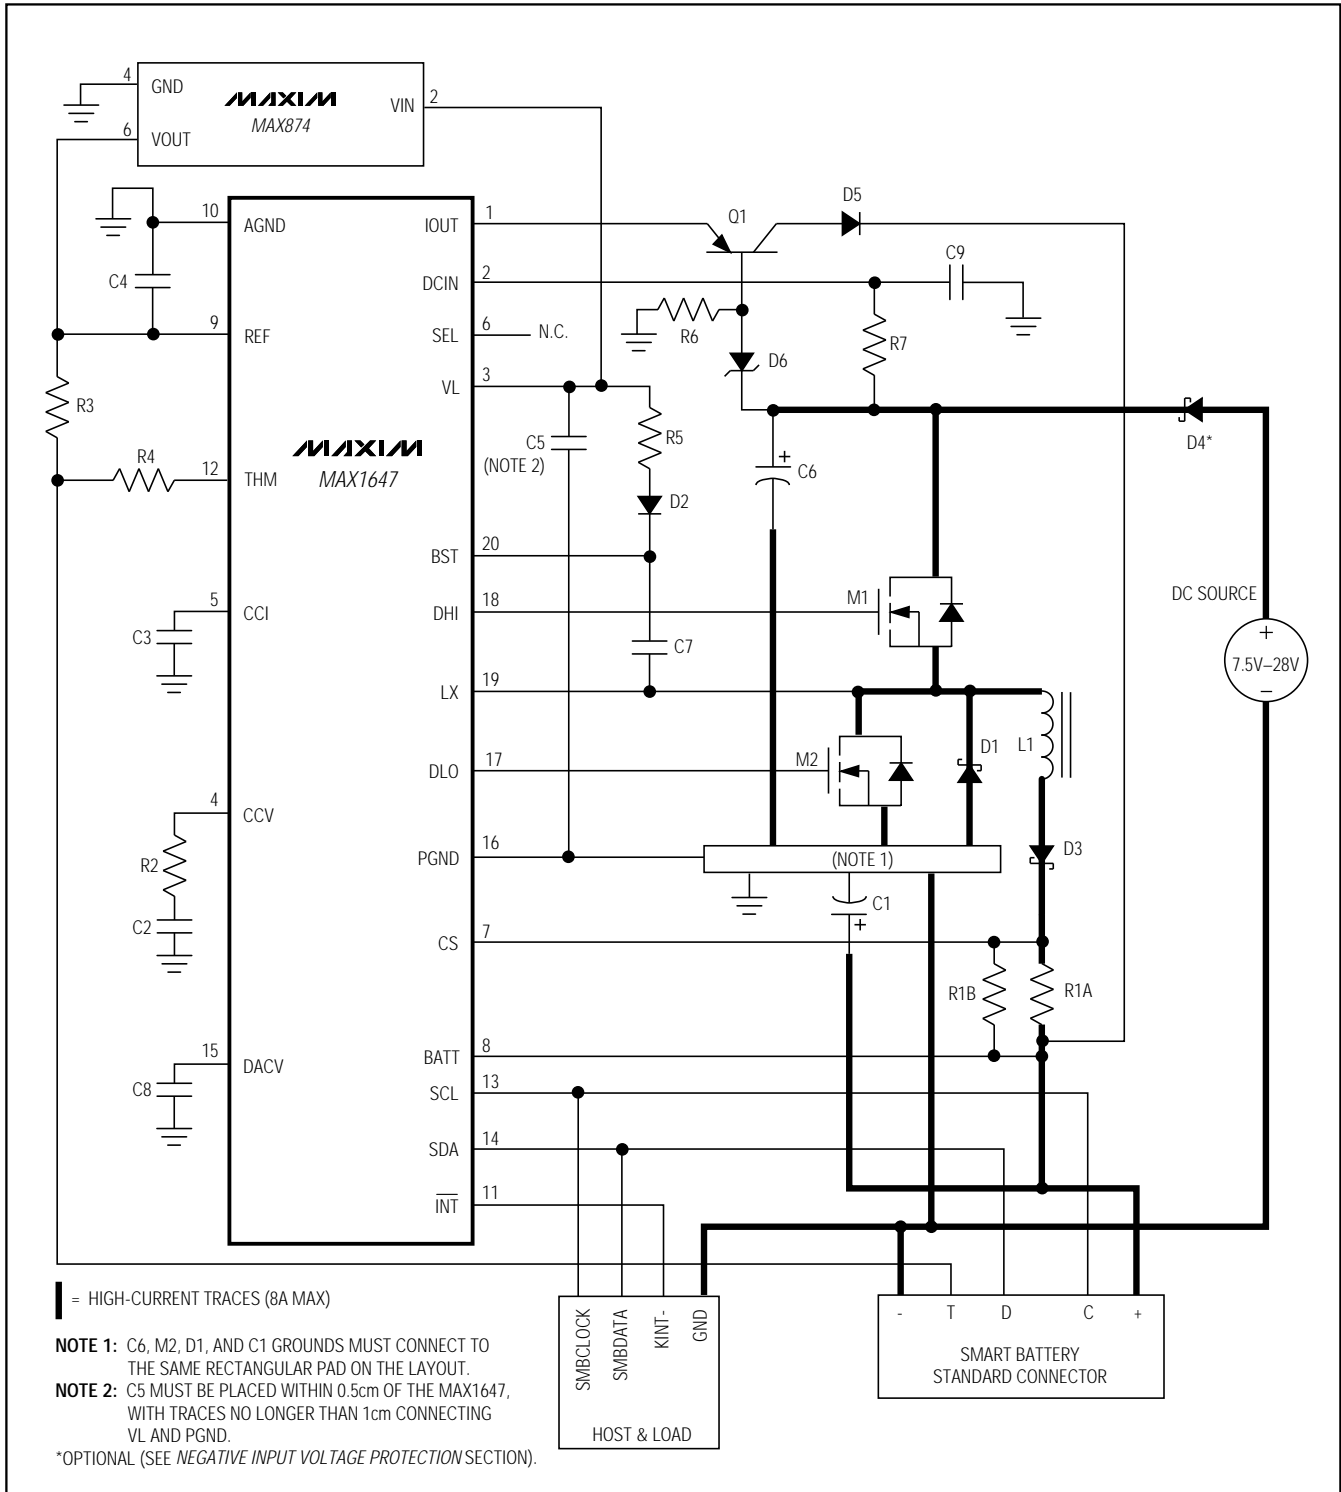
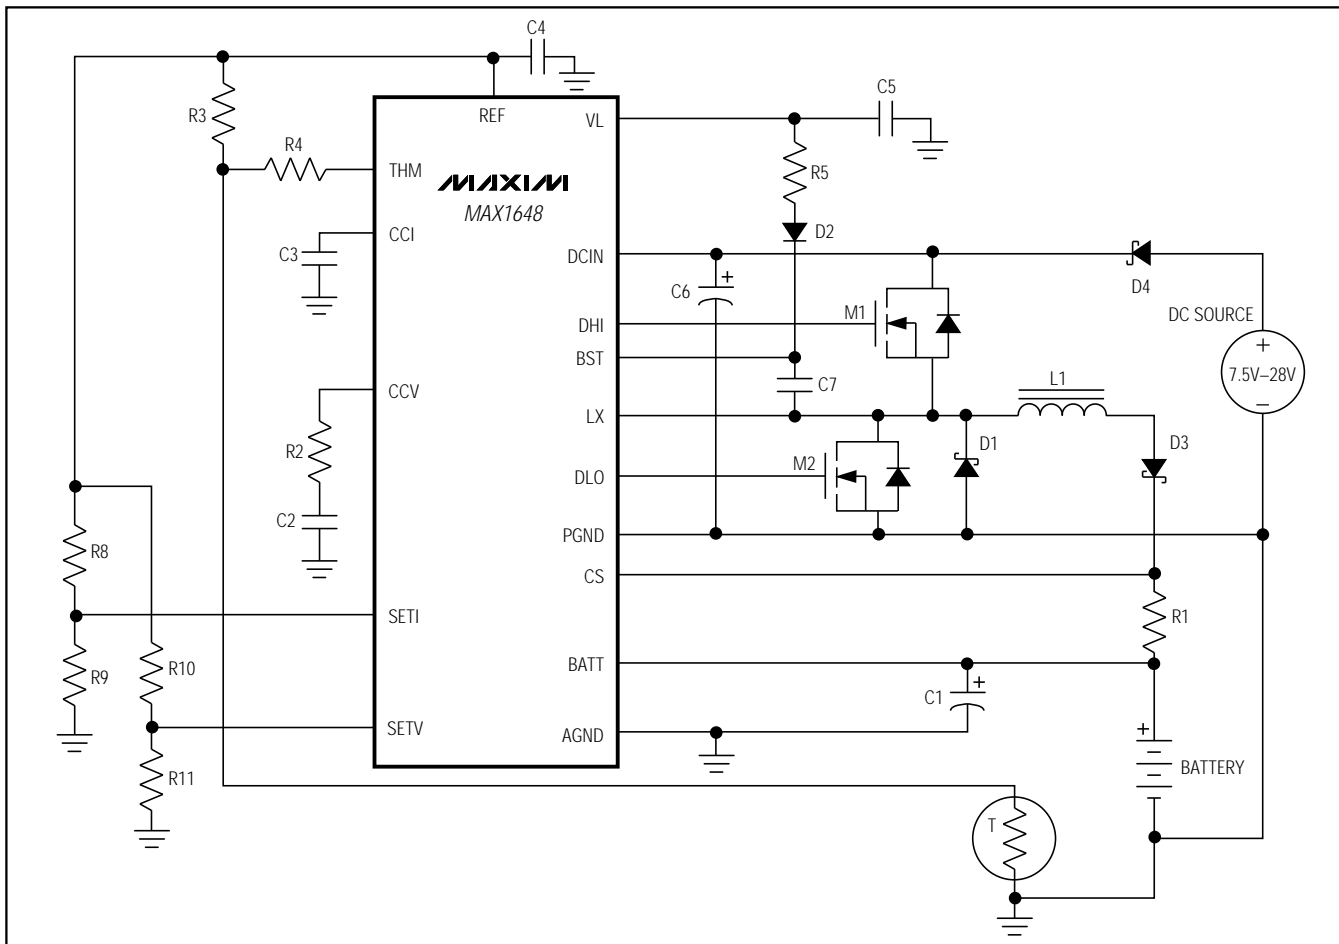
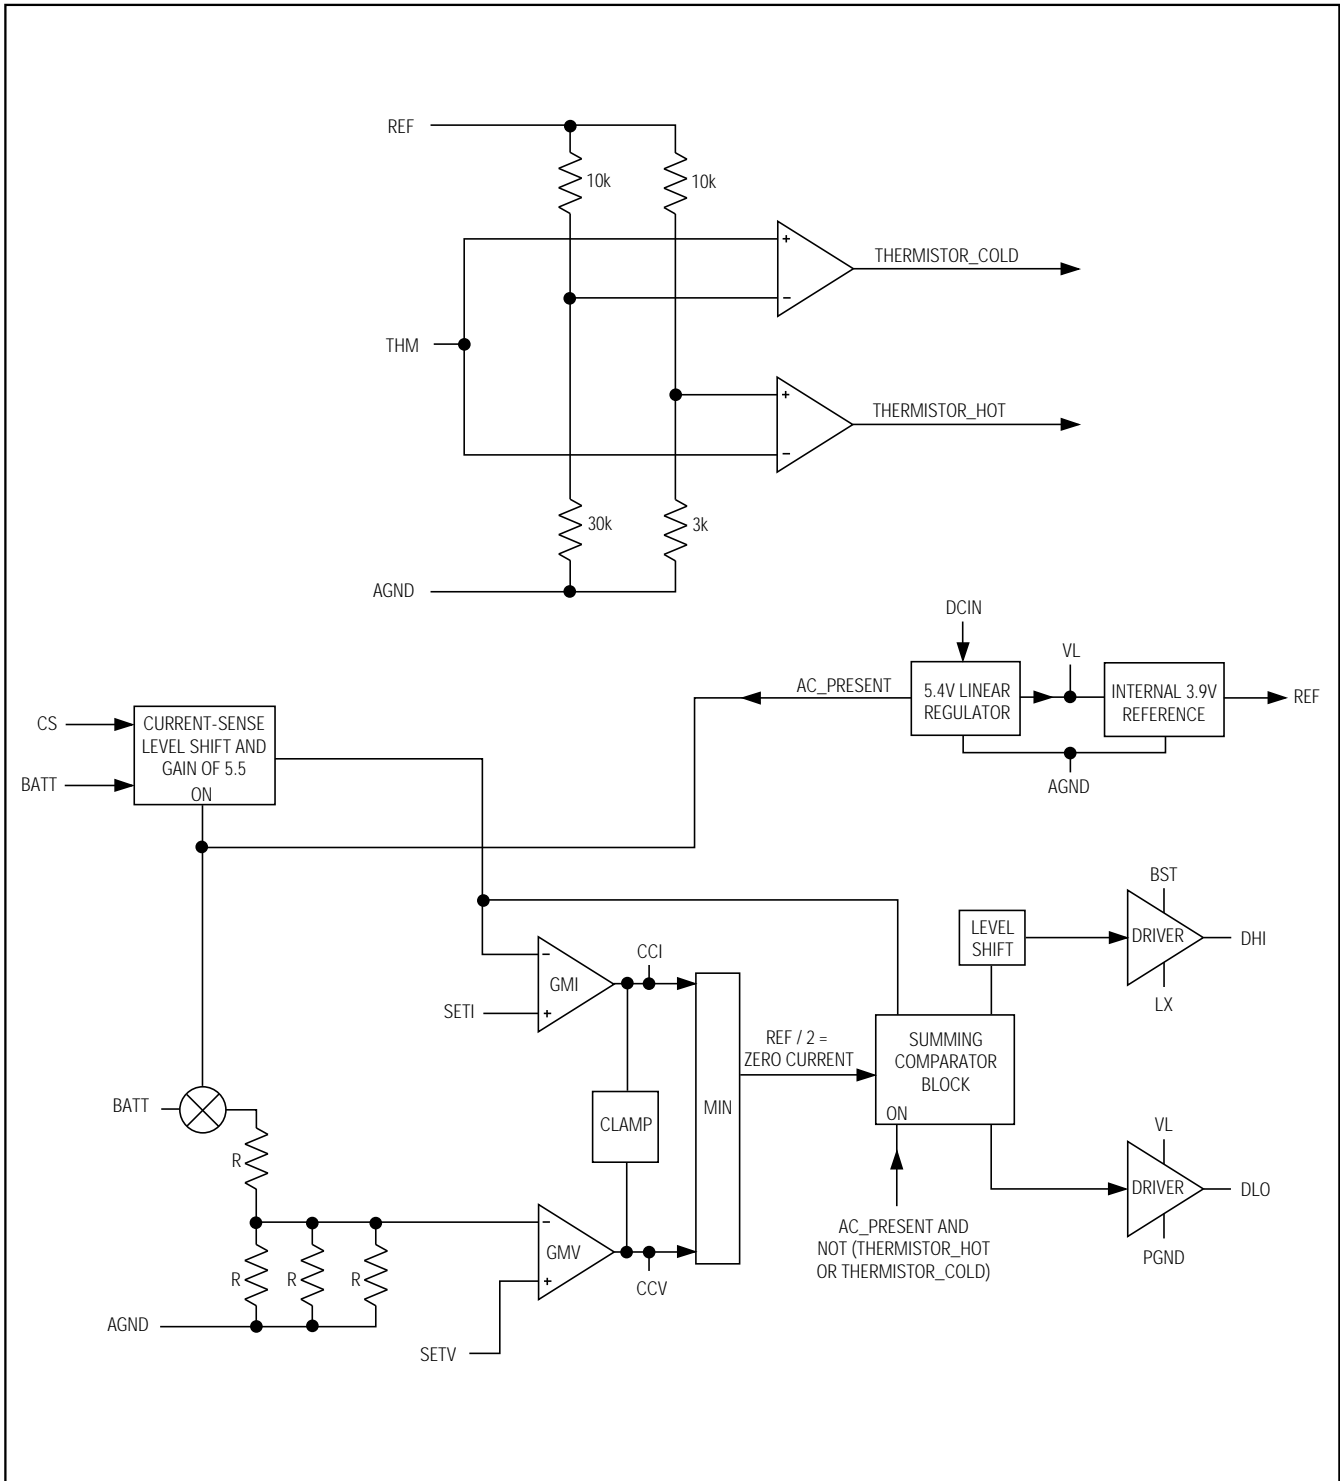

Figure 3. MAX1647 Typical Application Circuit
Figure 4. MAX1648 Typical Operating Circuit
Figure 6b. MAX1648 Block Diagram
(Circuit of Figure 3,  $T_A = +25^\circ\text{C}$ , unless otherwise noted.)
**Table 1a. Component Selection for Figure 3 Circuit (Also Use for Figure 4)**
Set the MAX1648's voltage- and current-limit set points ( $V_0$  and  $I_0$ , respectively) using external resistive dividers. Figure 6b is the MAX1648 block diagram.  $V_0$  equals four times the voltage on the SETV pin.  $I_0$  equals the voltage on SETI divided by 5.5, divided by  $R_1$  (Figure 4).
At heavy loads, the PWM controller switches at a fixed frequency and modulates the duty cycle to control the battery voltage or current. At light loads, the DC current through the inductor is not sufficient to prevent the current from going negative through the synchronous rectifier (Figure 3, M2). The controller monitors the current through the sense resistor  $R_{SEN}$ ; when it drops to zero, the synchronous rectifier turns off to prevent negative current flow.
The MAX1647 drives external N-channel MOSFETs to regulate battery voltage or current. Since the high-side N-channel MOSFET's gate must be driven to a voltage higher than the input source voltage, a charge pump is used to generate such a voltage. The capacitor C7 (Figure 3) charges to approximately 5V through D2 when the synchronous rectifier turns on. Since one side of C7 is connected to the LX pin (the source of M1), the high-side driver (DHI) can drive the gate up to the voltage at BST, which is greater than the input voltage, when the high-side MOSFET turns on.